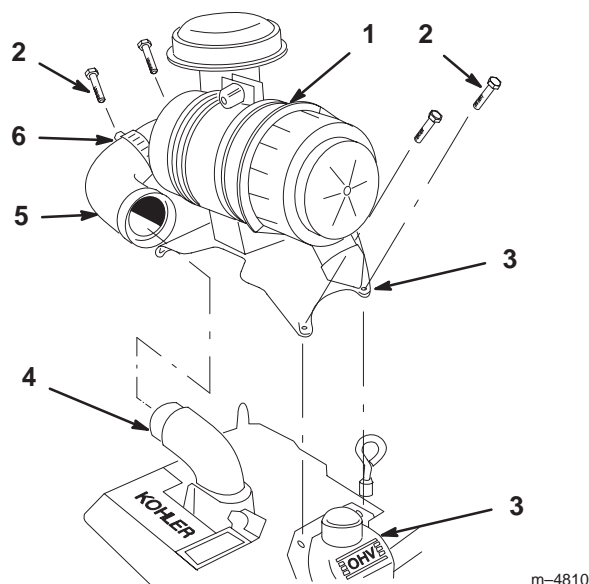

Figure 7
1. Remove air cleaner from the crate. Keep the air cleaner and bracket together. (Fig. 7).
2. Remove the top 2 valve cover screws from both valve covers (Fig. 7).
3. Place air cleaner onto engine and align holes in air cleaner bracket with holes in valve covers (Fig. 7).
4. Install the valve cover screws into air cleaner bracket and the valve covers (Fig. 7).
5. Remove the plastic plugs from air intake elbow on engine and air cleaner hose (Fig. 7).
6. Install hose to air intake elbow and air cleaner. Tighten hose clamps to secure the hose connections (Fig. 7).